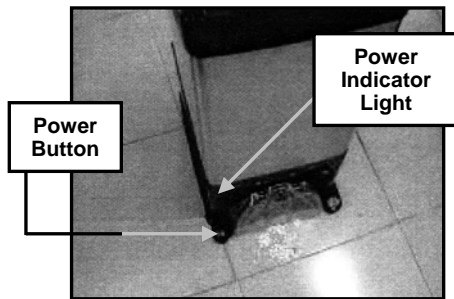

Fig. 5
3. Push the power button to turn on the unit. When the unit has been turned on, the power indicator light will go on. (Fig. 5) Once the unit is on, sweep the dirt/dust to the dust inlet. The dust inlet will then suck up the dirt/dust. To turn the unit off, push the power button a second time.